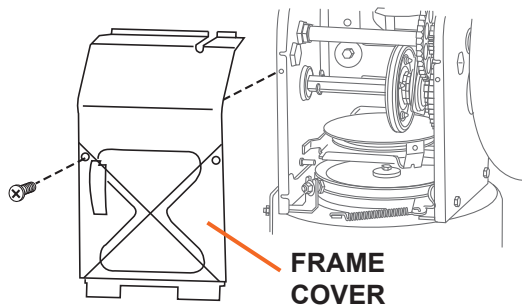

Figure 17
1. Remove the lower frame cover by removing the two screws which secure it (see Figure 17).